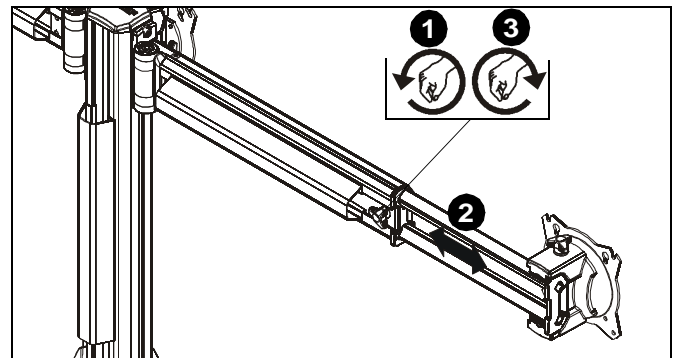

Figure 19
- Turn arm extension adjustment knob counter-clockwise on arm to be adjusted. (See Figure 19)
- Adjust arm extension as desired. (See Figure 19)
- Turn arm extension adjustment knob clockwise on adjusted arm to lock position. (See Figure 19)